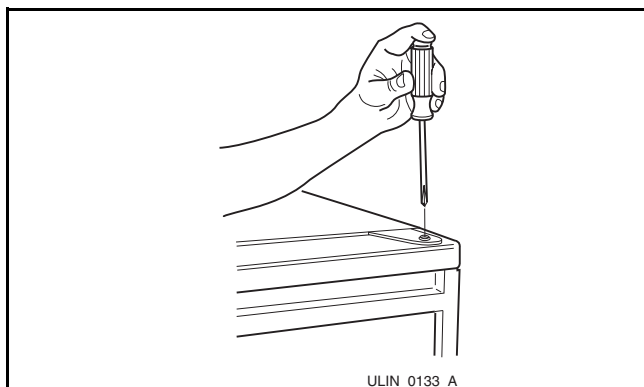

Figure 15. Top Hinge Mounting
2. Remove the top hinge pivot pin with a Phillips screwdriver (**Figure 15**) and lift door off bottom hinge pin. Be careful not to lose the door closer insert sets.